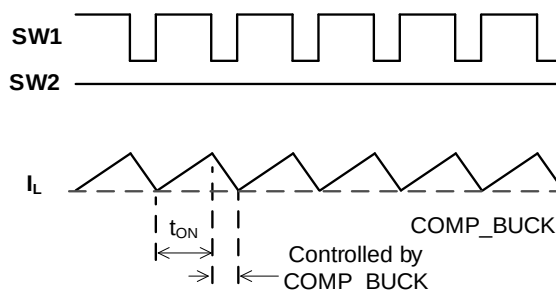

Figure 4: Buck Waveform
If I_L drops to the buck comparator (COMP_BUCK) voltage (V_{COMP_BUCK}), SWB turns off and SWA turns on for a fixed on time (t_{ON}). Then SWB turns on again, and the operation repeats. The COMP_BUCK signal is the error amplifier (EA) output from the V_{OUT} feedback and internal feedback (FB) reference voltage (V_{REF}) (see Figure 4).